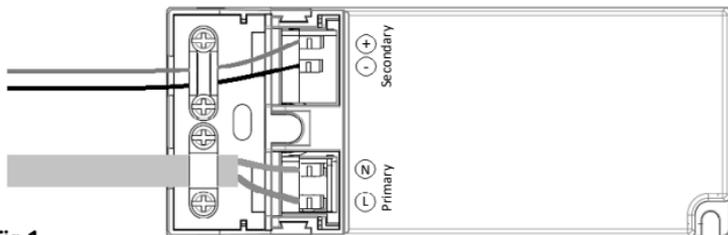

Fig 1
- Connect the LED driver to the mains supply ensuring the correct polarity is observed (see Fig 1).